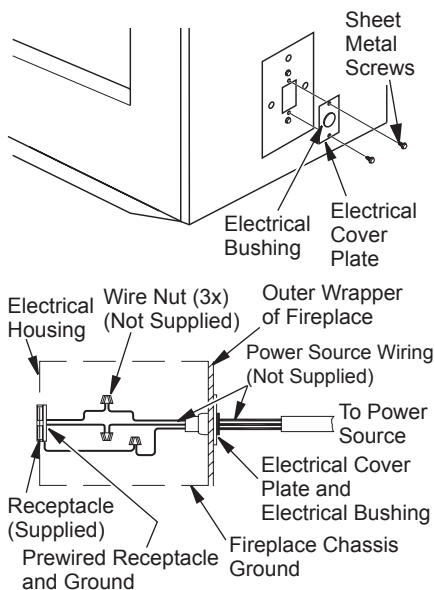

Figure 12 - Electrical Bushing
1. Remove electrical cover plate with bushing from fireplace by removing 2 sheet metal screws as shown in Figure 12.
3. Slide all wiring connections in electrical housing as shown in Figure 12.